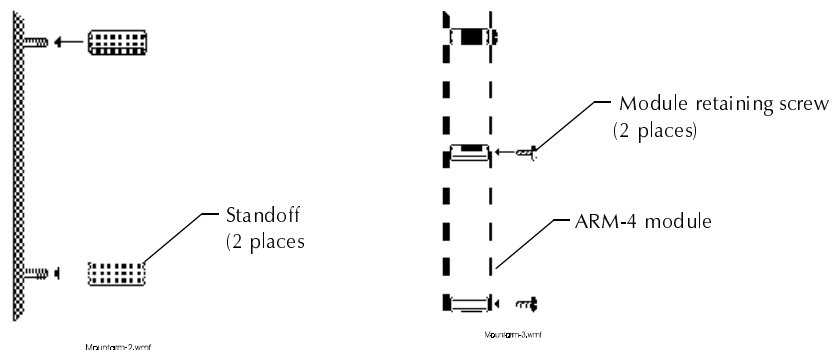

Figure 2-14 Mounting an ARM-4 to a CHS-4 Chassis
2. Secure the two loose standoffs to the screw mounts on the CHS-4 chassis at the selected location for the ARM-4. Make sure to install existing standoffs in the locations shown in Figure 2-14:
3. Position the ARM-4 module over the existing standoffs on the chassis; then, fasten the ARM-4 module to the chassis with the two module retaining screws as shown in Figure 2-14.